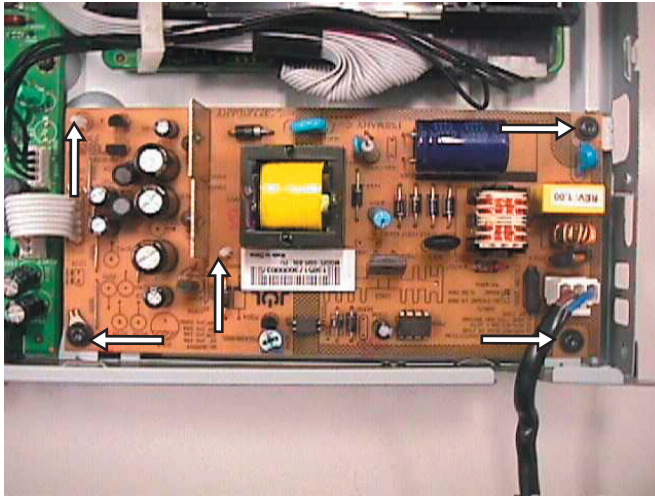

Figure 8- Unscrew the screws and release the spacers
- 1) Remove 3 screws and release 2 spacers as shown in figure 8 to dismantle the PSU Board 1002..